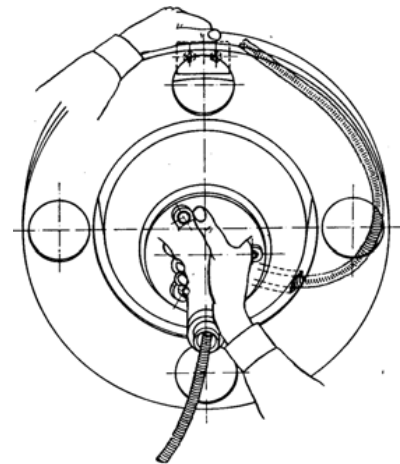

Figure 7
4. Allow the inner drum to rotate freely in a clockwise direction as you feed sufficient cable through the distributor arm into the external drum to position the cable within the external drum as illustrated in Figure 7.